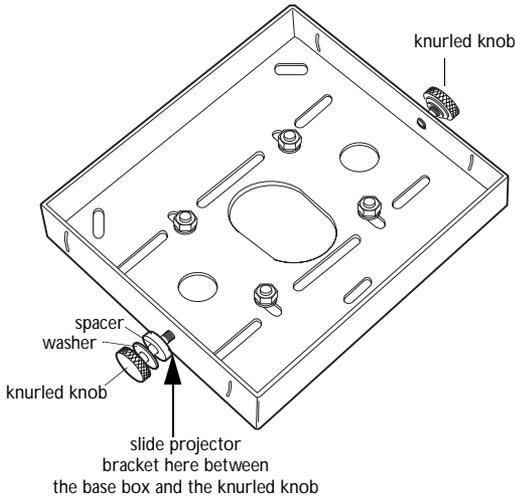

FIGURE 4
- 1 Loosely install the 12 mm knurled knobs, flat washers, and conical spacers to the 2 hinge pins on the base box (Figure 4).
- 3 Insert the projector and mounting bracket into the base box through the space between the knurled knobs and base box (Figure 4). Slide the projector bracket forward until the knurled knobs rest fully in the vertical slots and support the projector. Tighten the knurled knobs completely.